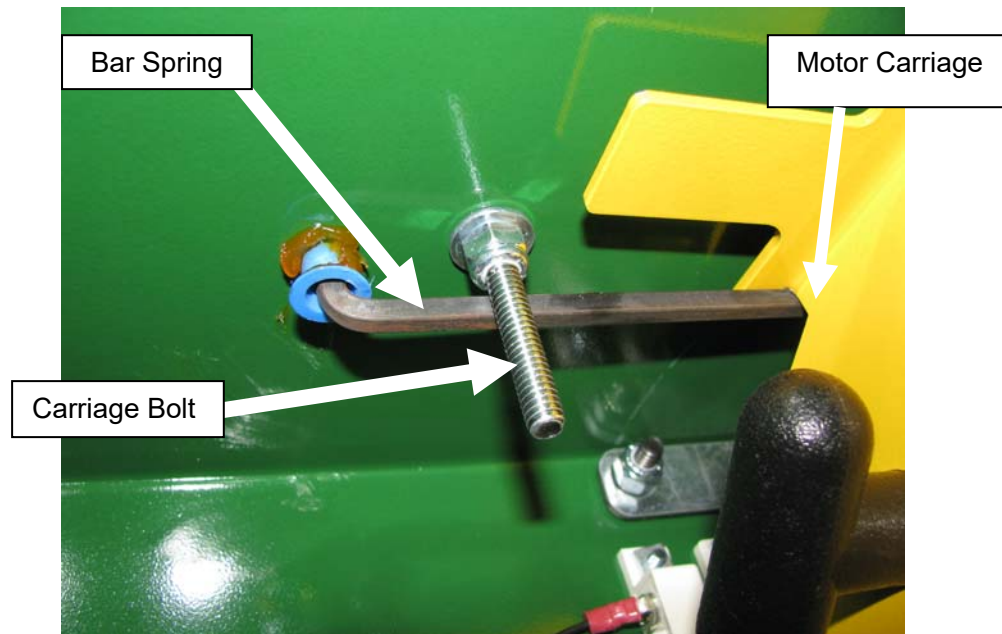

Fig 16
4. The short elbow at the end should face up toward the inside of the case top. Place a plastic cap on the tip of the elbow and apply a small amount of lubricant to the plastic cap to reduce friction resistance. **See Fig 16.**